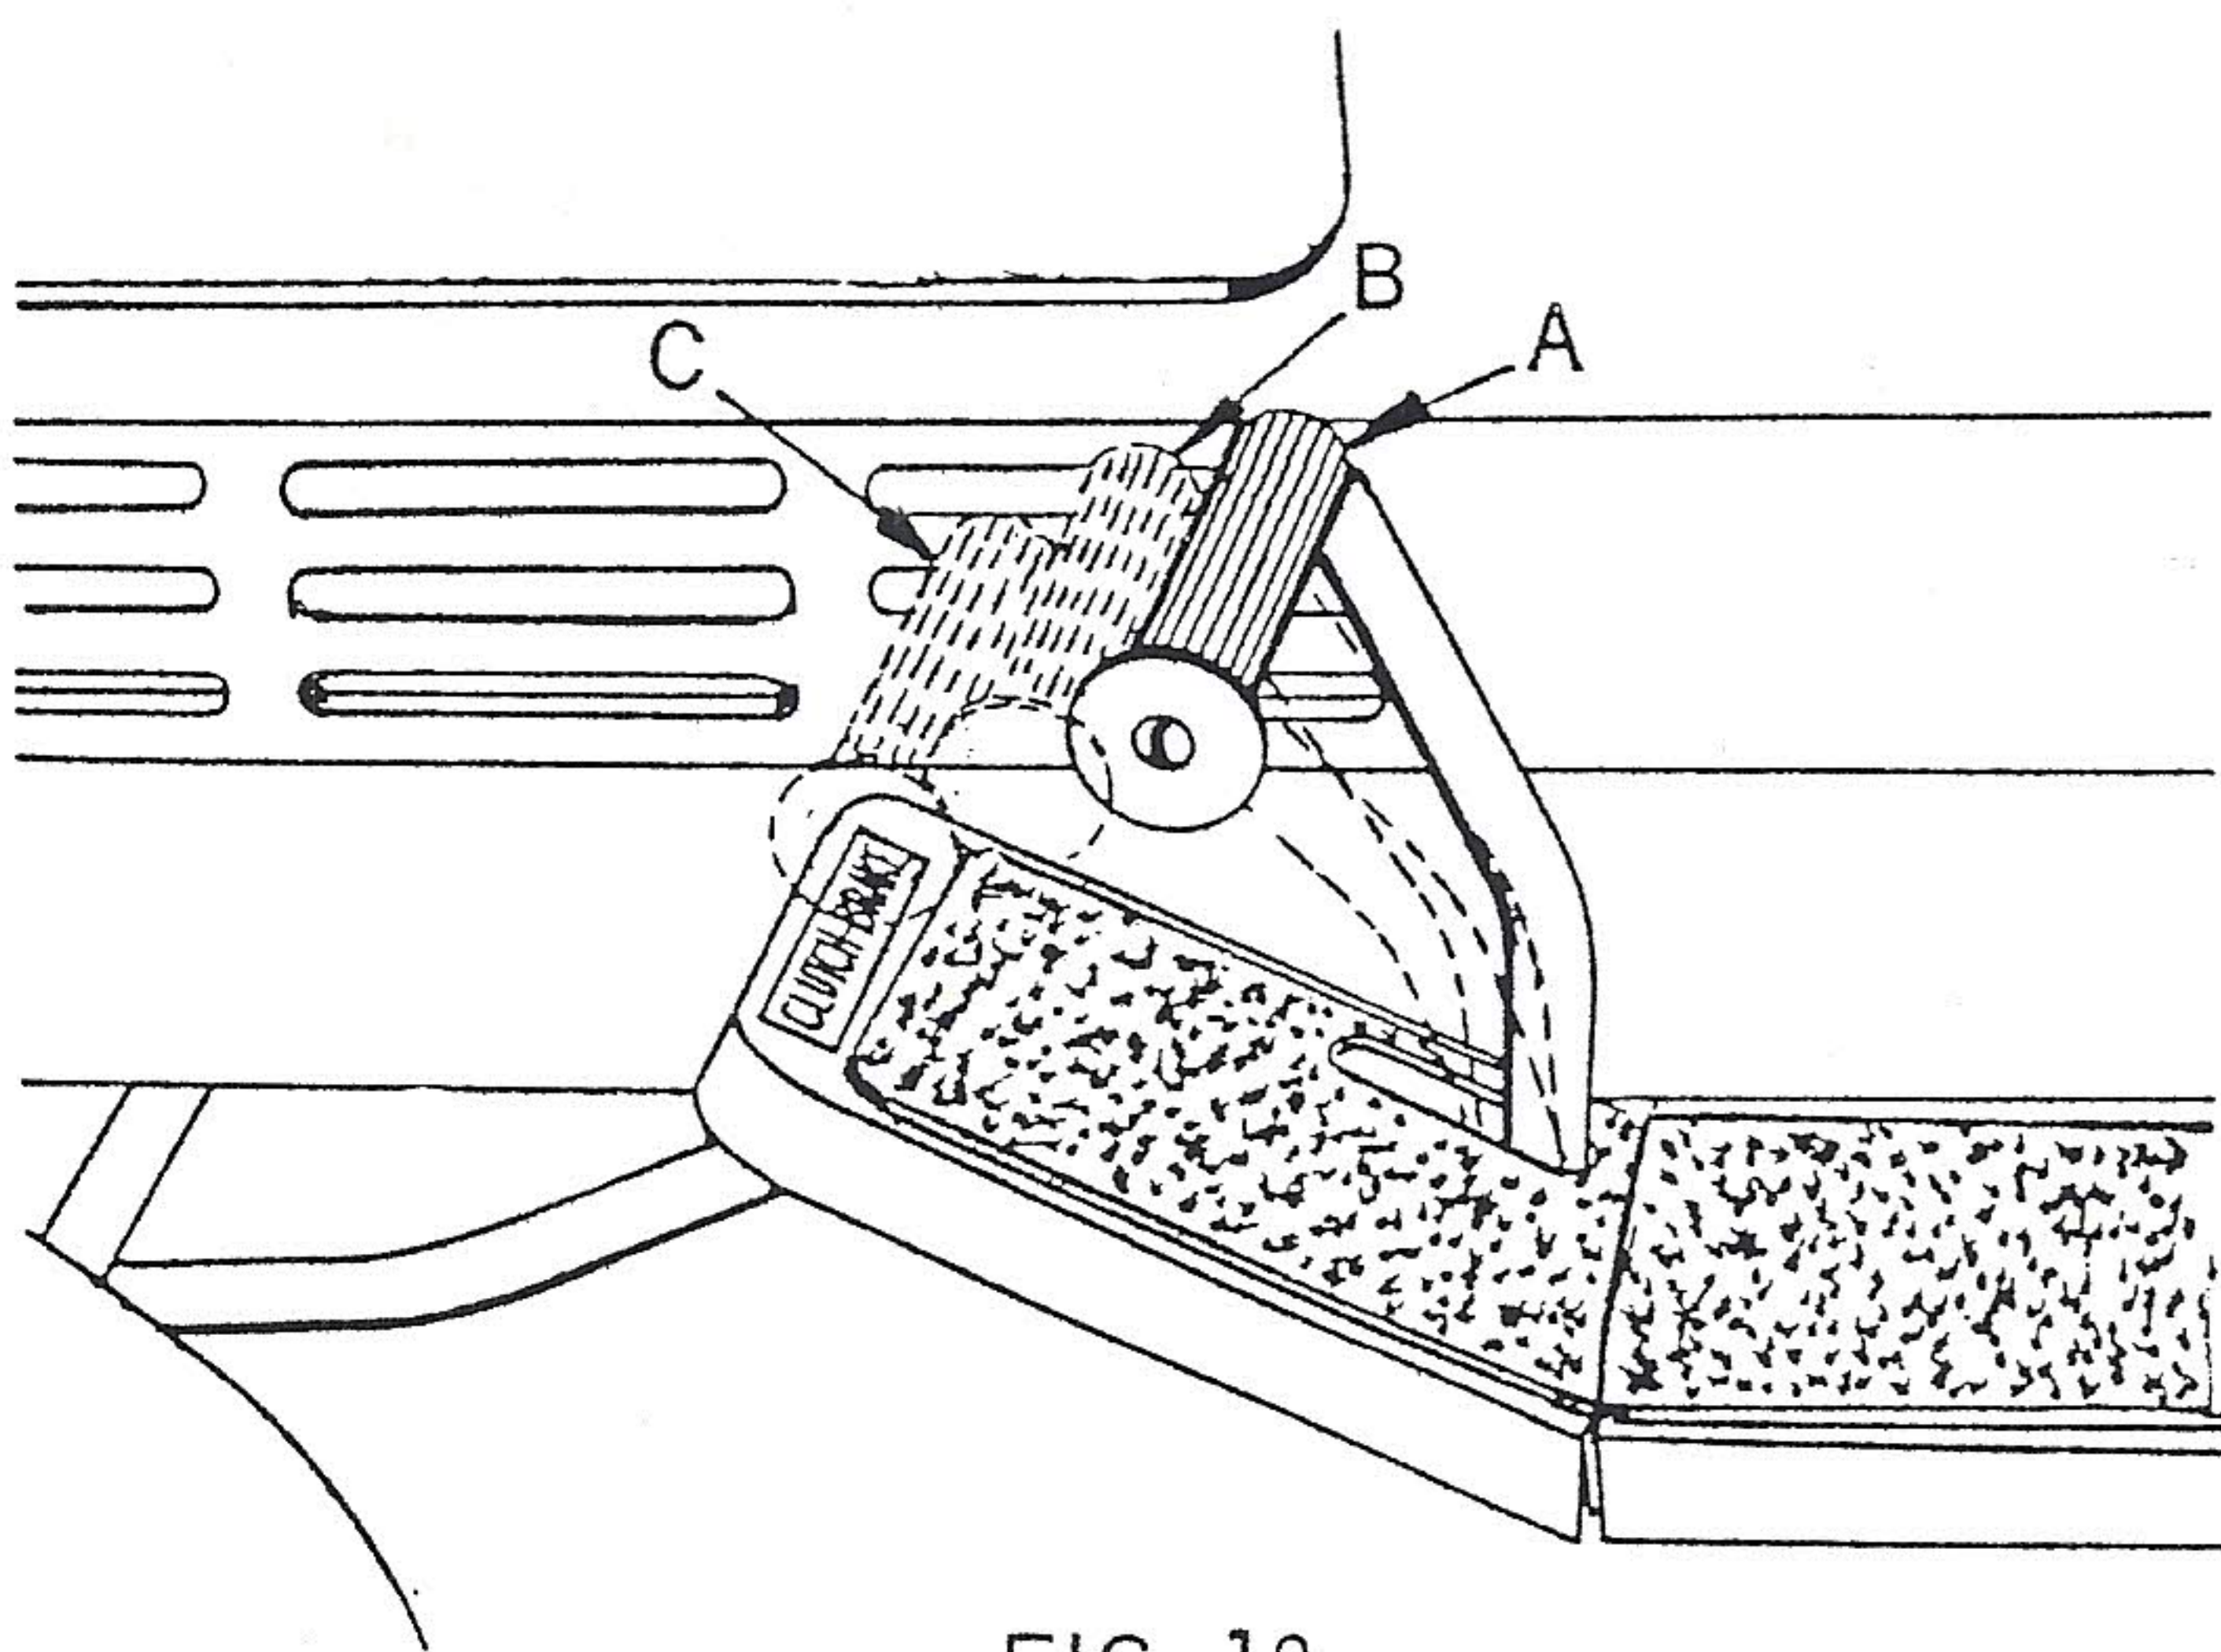
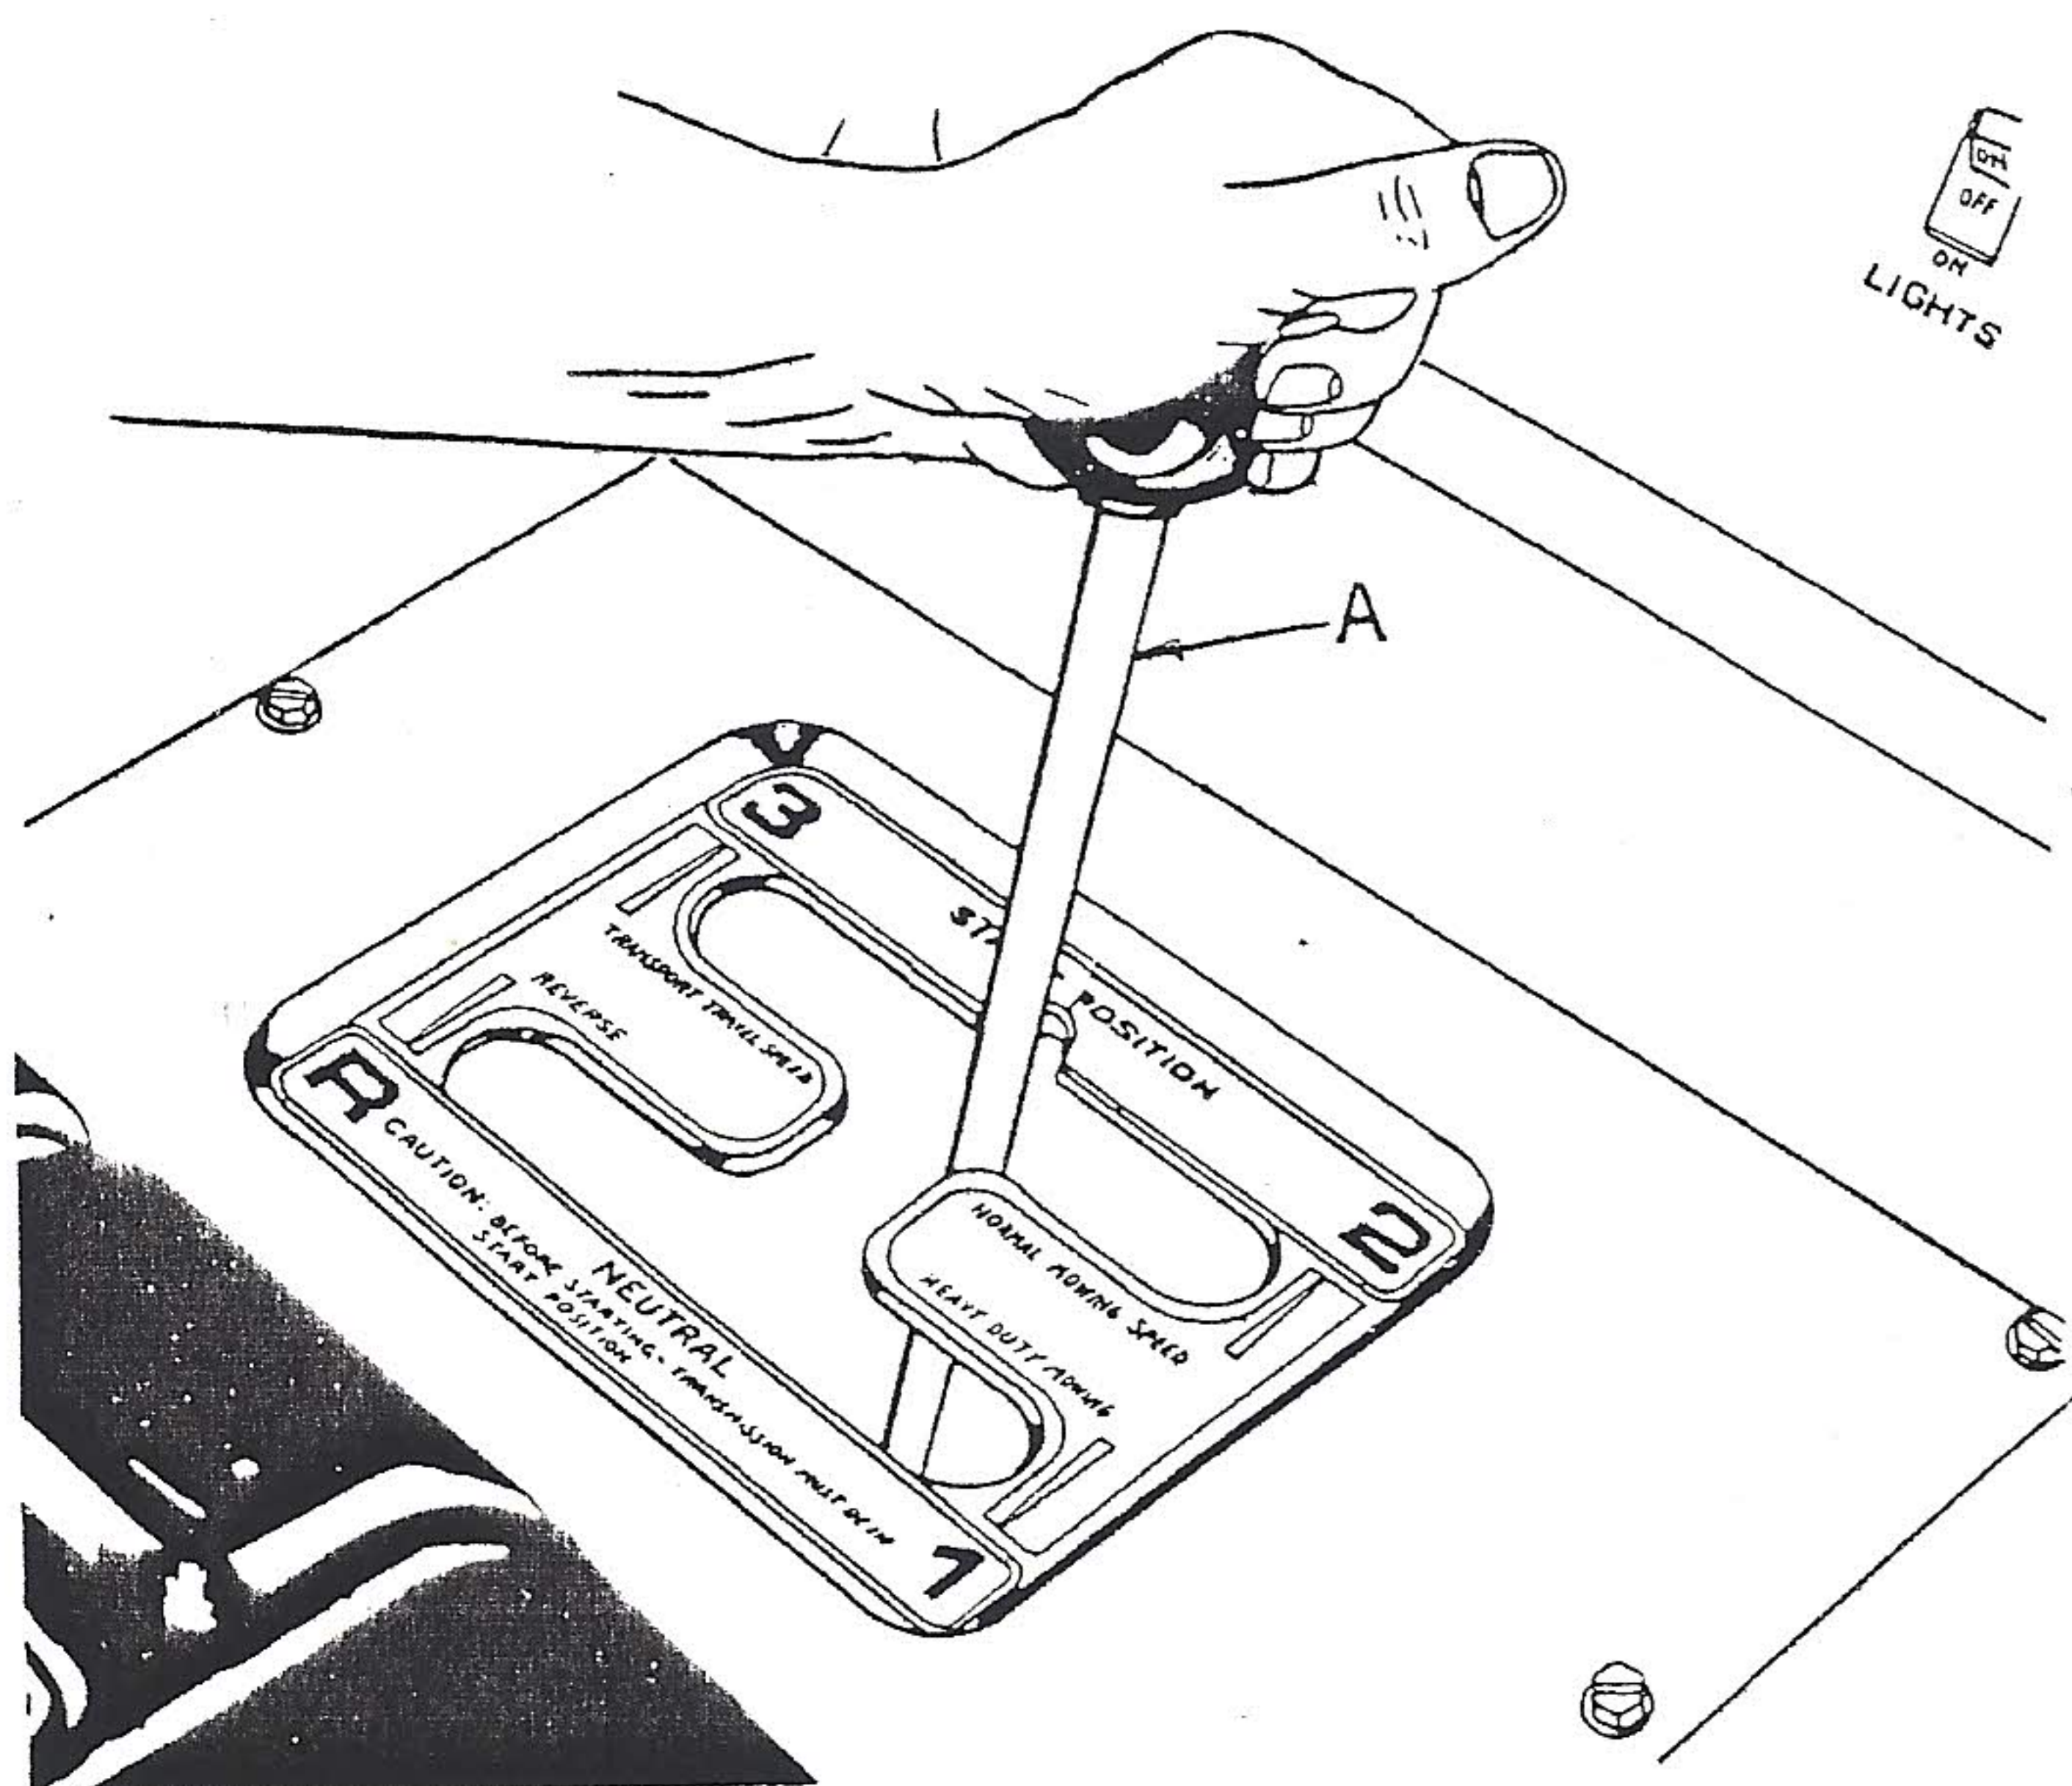

FIG. 18
FIG. 19
- Depress clutch and brake foot pedal, refer to Fig. 18.
- Depress clutch and brake foot pedal, refer to Fig. 18, to "Neutral" position. Move gear shift lever refer to Fig. 19, to desired speed. Release clutch and brake foot pedal slowly and tractor will start to move. After clutch and brake foot pedal is fully released, should ground travel be too fast, depress foot pedal and shift to a slower ground travel speed. DO NOT shift gears while tractor is moving.